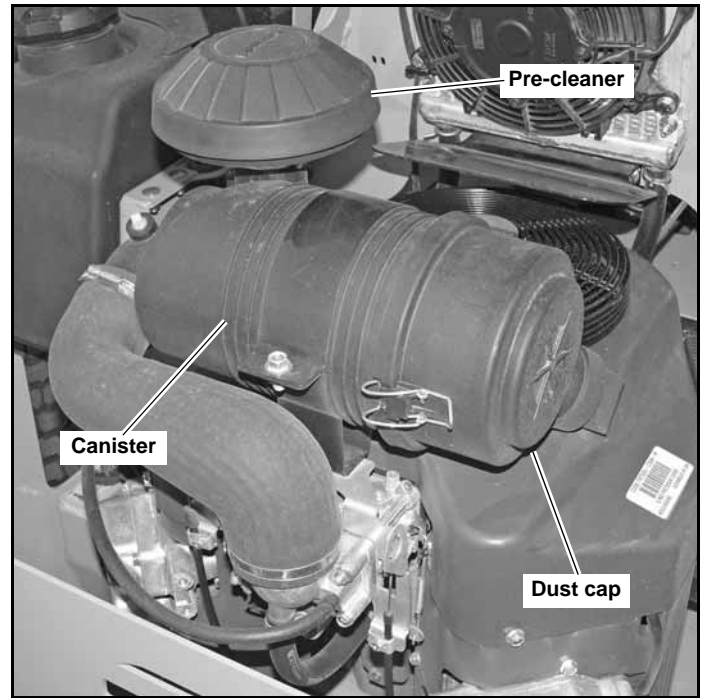

Figure 5-4
A specially designed dry filter is standard equipment on these mowers and supplies clean combustion air to the engine. Figure 5-4
3. Reinstall the dust cap. Make sure it seals all the way around the air cleaner body, then tighten the clamps. Figure 5-4